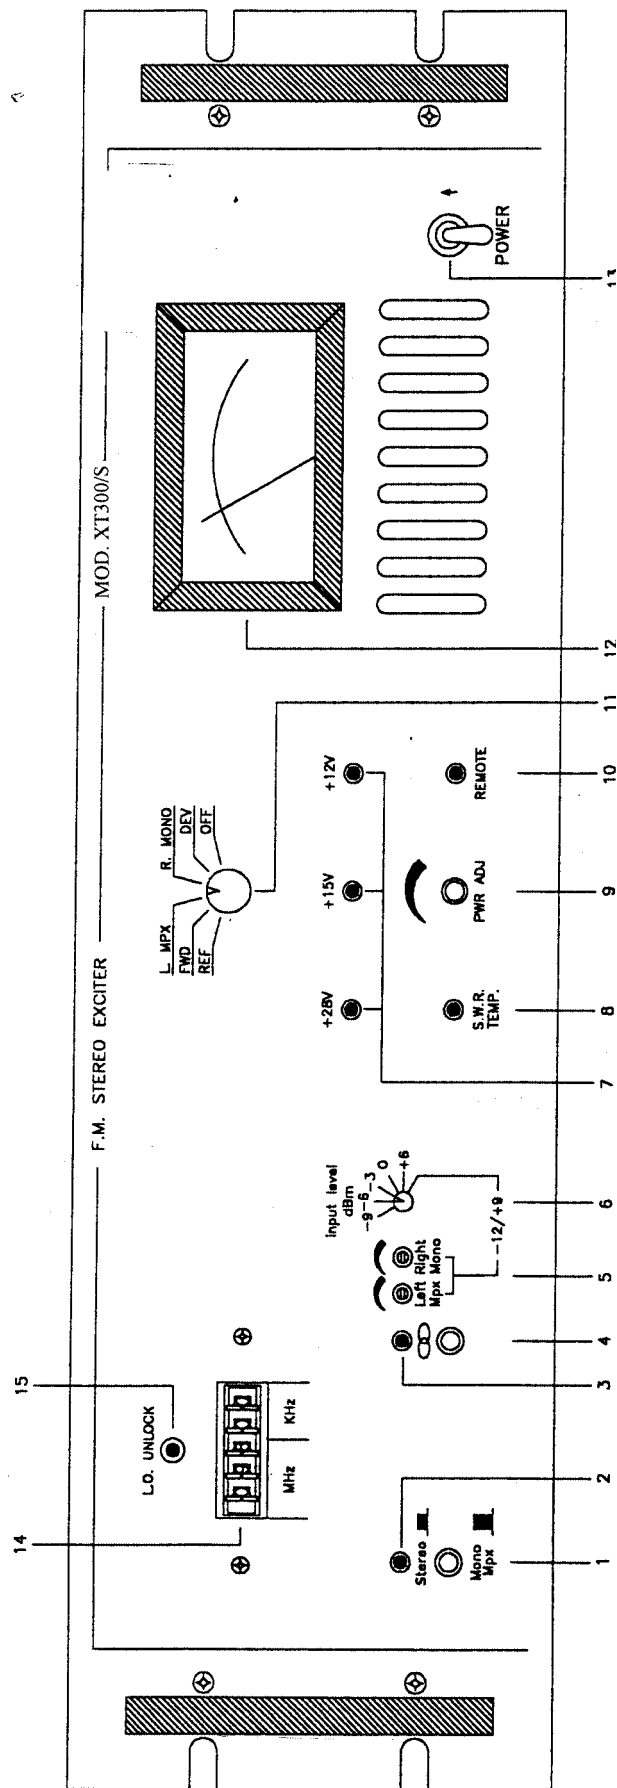
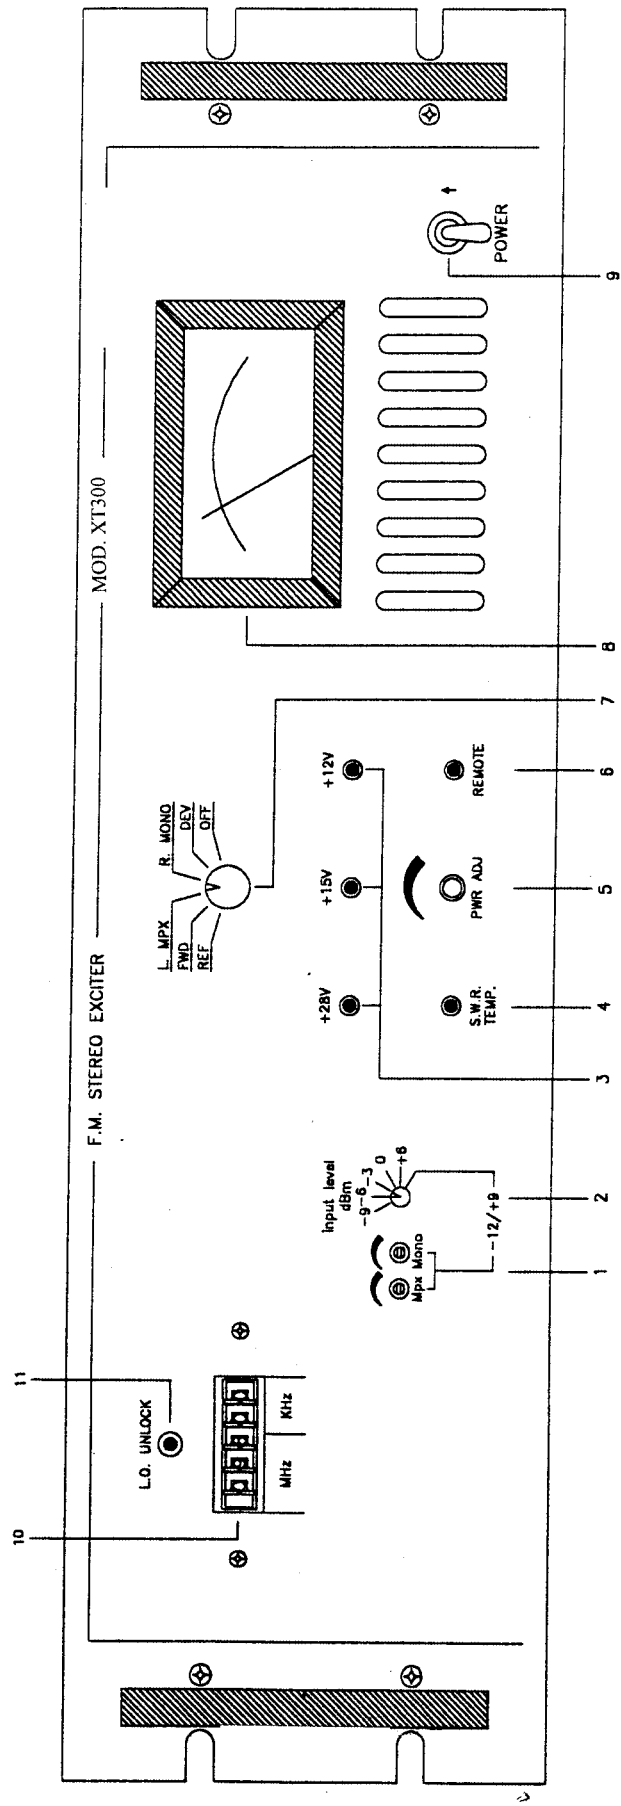

FIG. 1A
FIG. 1B
FRONT PANEL STEREO VERSION VIEW DESCRIPTION (FIG. 1A)
FRONT PANEL MONO/MPX VERSION VIEW DESCRIPTION (FIG.1B)
- 2) Now ensure that the PWR ADJ control (Fig. 1A Item 9 or Fig. 1B Item 5) is rotated fully counterclockwise, using a small screwdriver (the pot is a ten turn pot so care should be taken to verify the minimum position). Units are normally shipped with this control at minimum.
- 5) Switch the unit's ON/OFF switch (Fig. 1A Item 13 or Fig. 1B Item 9) to the OFF position.
- 7) Switch the power switch (Fig. 1A Item 13 or Fig 1B Item 9) to the ON position and check that the three green internal voltage LEDs, (Fig. 1A Item 7 or Fig. 1B Item 3) and the red unlock LED (Fig. 1A Item 15 or Fig. 1B Item 11) are all on. Select the desired operating frequency using the corresponding selector. The red UNLOCK LED should switch off within 30 seconds, indicating that the oscillator has locked onto the operating frequency. The frequency selector comprises five figures of which three to the left of the decimal point represent (from left to right) hundreds MHz, tens MHz, and MHz. The two figures to the right of the decimal point represent (from left to right) hundreds of KHz and tens of KHz.